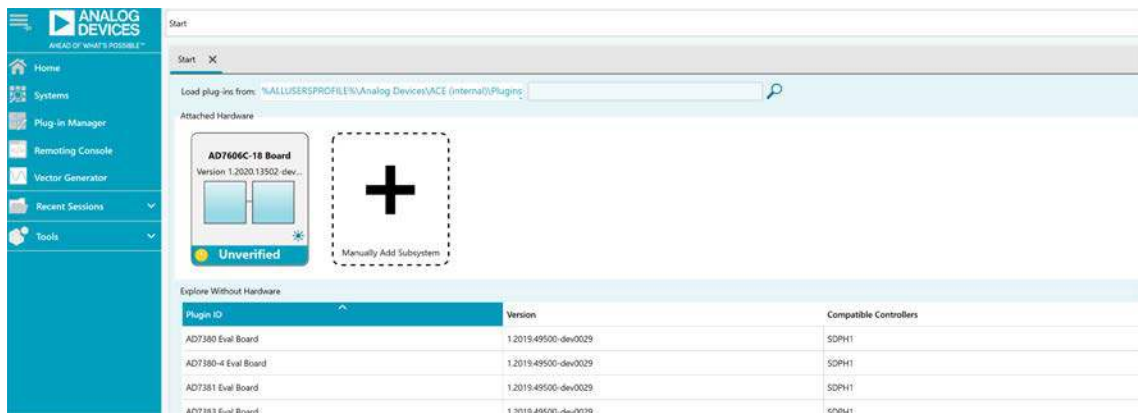

Figure 10. ACE Software Main Window
1. From the **Start** menu of the PC, select **All Programs > Analog Devices > ACE > ACE.exe** to open the ACE software main window shown in Figure 10.
2. If the EVAL-AD7606CFMCZ is not connected to the USB port via the SDP-H1 when the ACE software launches, the **AD7606C-18 Board** icon does not appear in the **Attached Hardware** section in ACE (see Figure 10). To make the **AD7606C-18 Board** icon appear, connect the EVAL-AD7606CFMCZ and the SDP-H1 to the USB port of the PC, wait a few seconds, and then follow the instructions in the dialog box that opens.